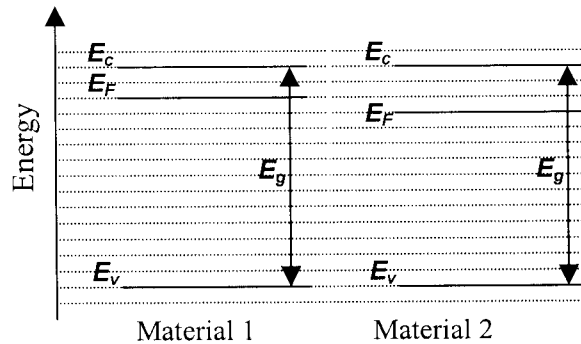

Figure 1: The energy band diagrams of two materials.
- b) Give the relationship ( $<$ ,  $>$  or  $=$ ) between the density of the free minority carriers in material 1 and material 2 with energy band diagrams given in Figure 1. [4]